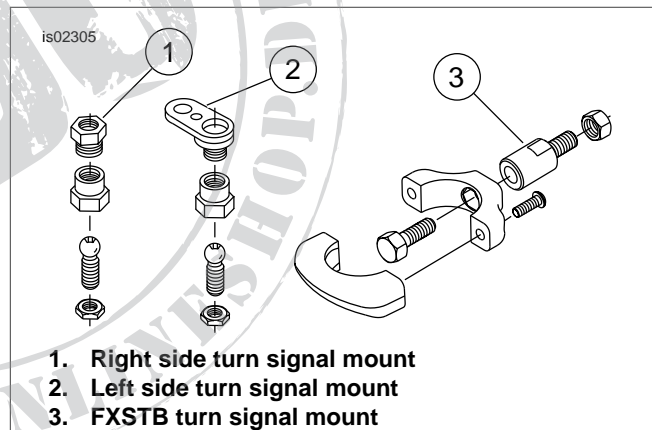

Figure 1. Remove Existing Turn Signal Mount
4. See Figure 1. Release turn signal lamp from left side of handlebar by removing the left side turn signal mount (2) (jam nut, ball stud, clamp and ball receptacle). Re-install stock lockwasher and acorn nut to secure mirror.
5. See Figure 1. Release turn signal lamp from right side of handlebar by removing the right side turn signal mount (1) (jam nut, ball stud, clamp and retainer). Install lockwasher and chrome acorn nut from kit.
On FXSTB models only: See Figure 1. Release turn signal lamps from fork tube by removing the existing turn signal mounts (3) (screws, clamps, standoffs and nuts).